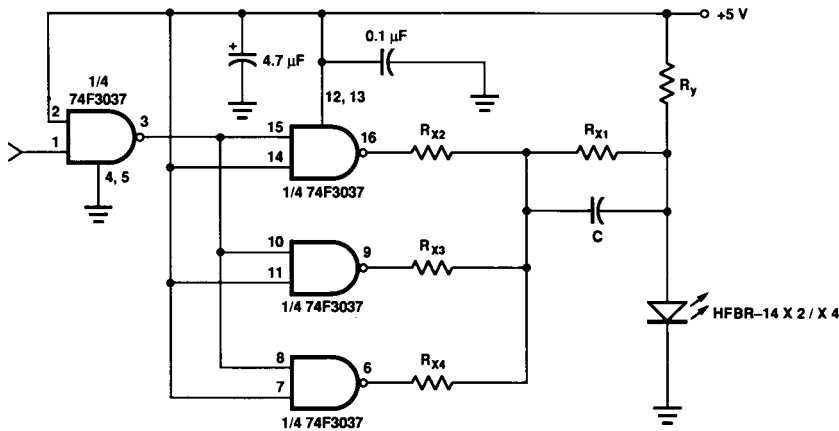

Figure 11. Recommended drive circuit.
- Pre-bias is recommended if signal rate $>10\text{ MBd}$, see recommended drive circuit in Figure 11.
The circuit used to supply current to the LED transmitter can significantly influence the optical switching characteristics of the LED. The optical rise/fall times and propagation delays can be improved by using the appropriate circuit techniques. The LED drive circuit shown in Figure 11 uses frequency com-